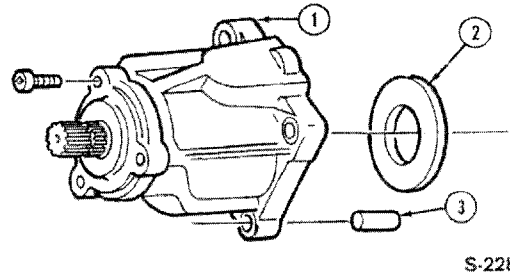

Figure 64
4. Install the cover (6) and tighten the retaining bolts to 3.61 ± 0.36 lbs. ft. (4.9 ± 0.49 Nm) torque.
5. Position the thrust plate (2) in the bottom of the motor housing in the fixed swash plate, Figure 64.